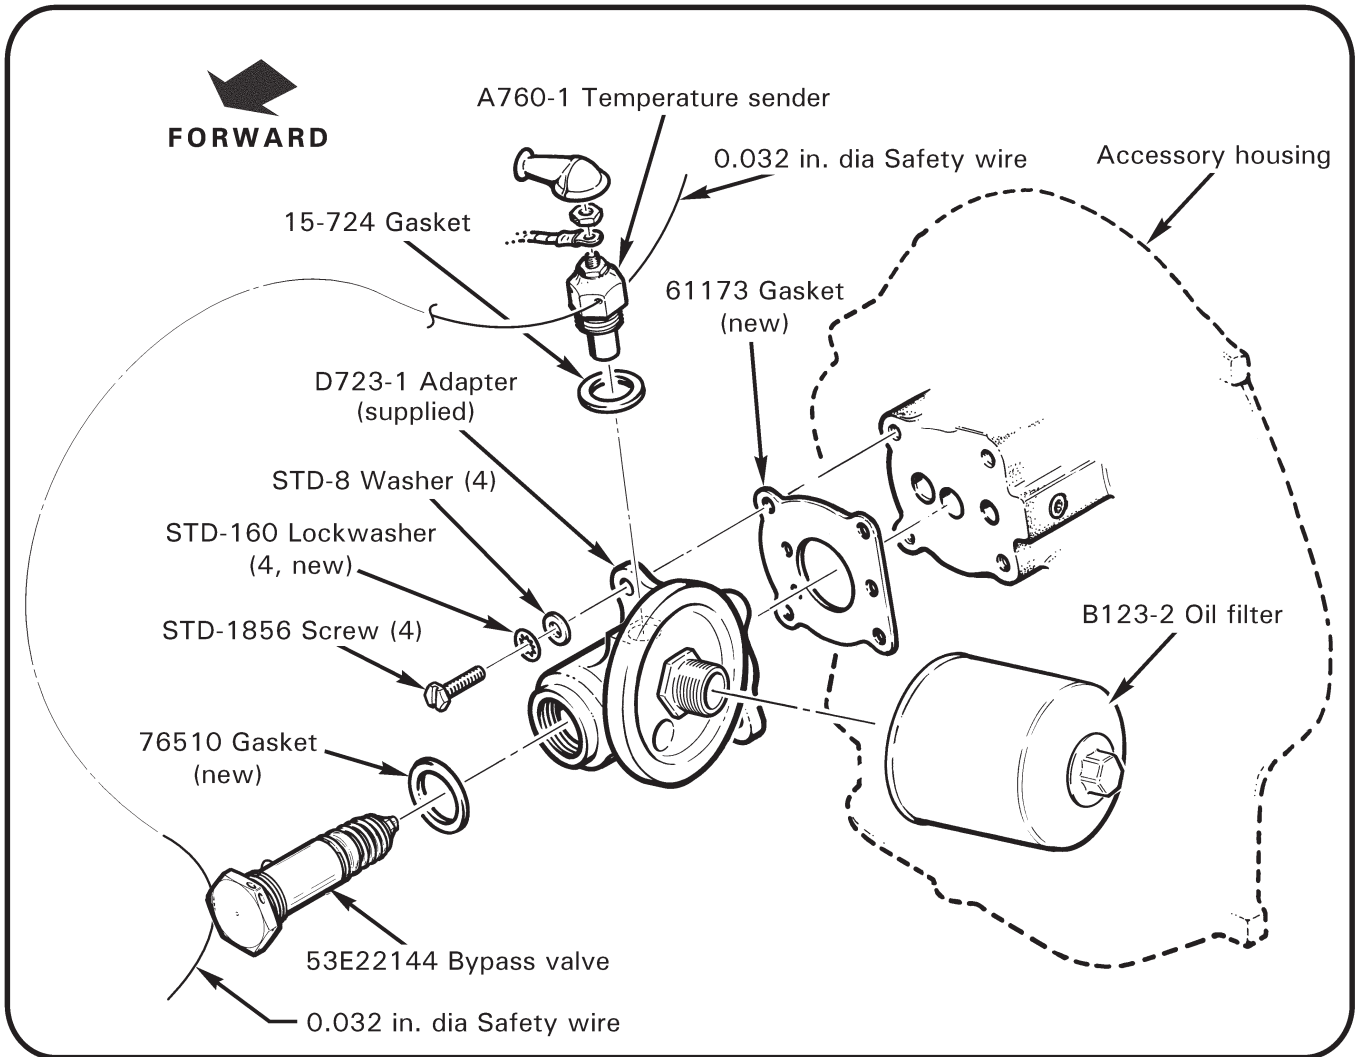

FIGURE 2 Installation
4. Refer to Figure 2. Install (supplied) D723-1 adapter on engine accessory housing using retained hardware and new STD-160 lockwashers & 61173 gasket. Verify straight side of gasket is oriented toward oil filter flange as shown. Special torque screws to 96 in-lb and torque stripe per MM Figure 2-1.